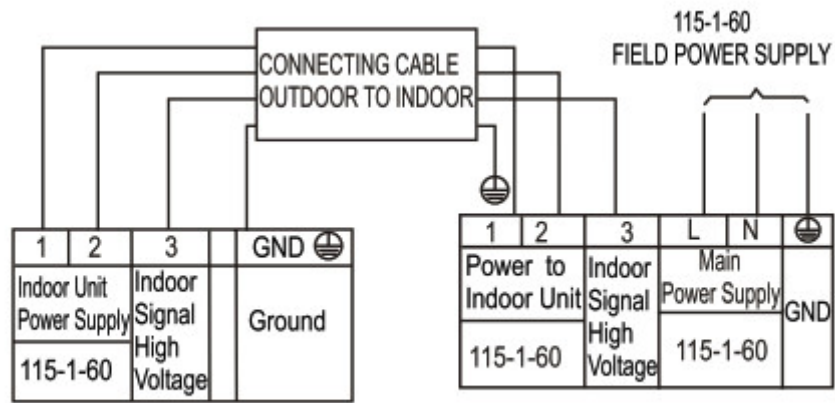
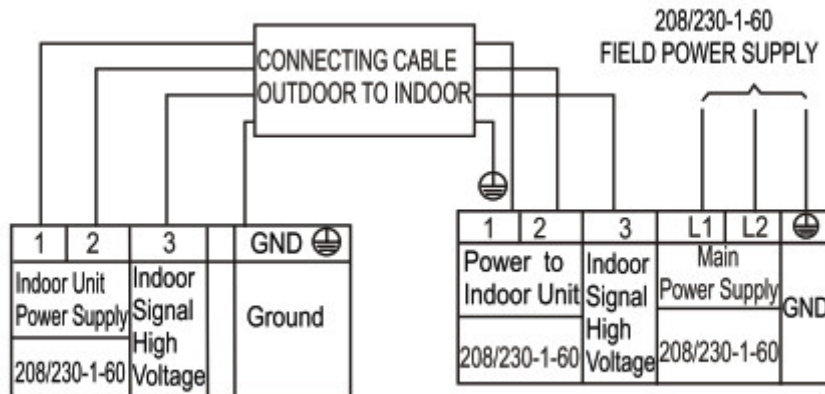

Fig. 23 — Connection Diagram 12K (115V)
Fig. 24 — Connection Diagram 9K - 18K (208/230V)
8. Connect the wiring from the outdoor unit per the connection diagram (see Fig. 23 and Fig. 24).